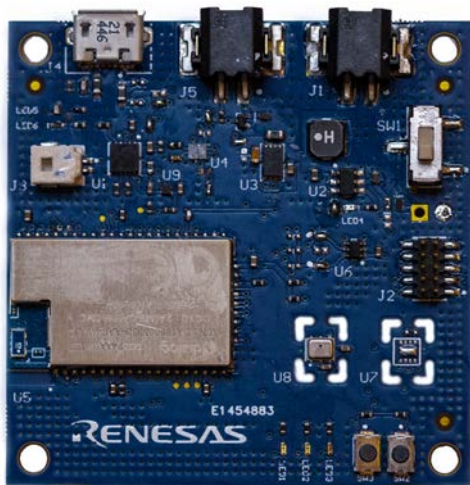

Figure 1: Top and back view of EU153-1 board
2. Unpack the package and take out the board (Figure 1)